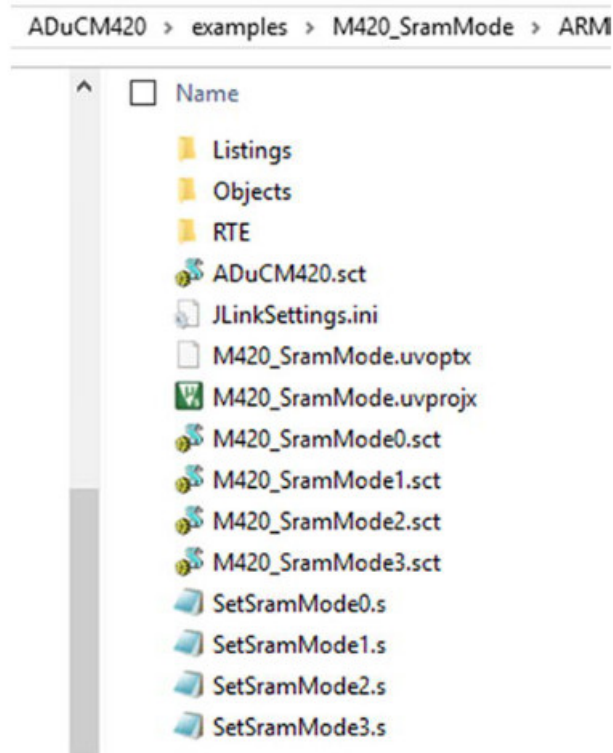

Figure 34. SRAM Mode .sct and .s Files
1. After the example program is opened from the Keil IDE, the files located in the same folder are shown. Ensure that the .sct and .s files from the example folder (see Figure 34) are used with the corresponding SRAM mode being tested.